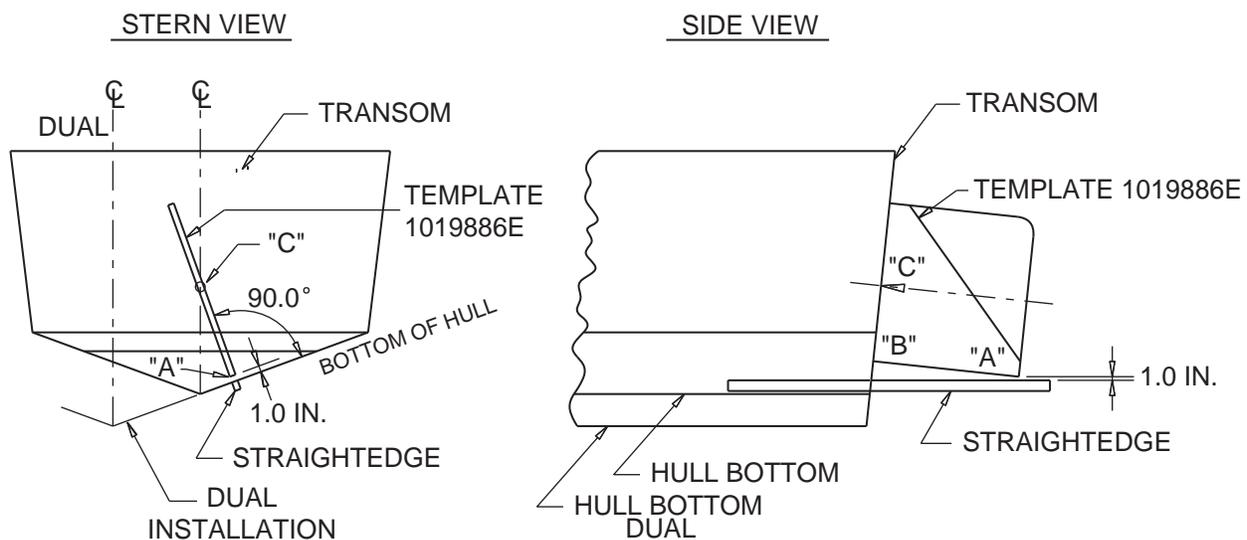

Figure 5. Mark Hull using Template 1019886E
3. Use Template 1019886E to locate and mark drive centerline(s) as shown in Figure 5.
4. A For single drive installations, position centerline of Template 1019886E on transom centerline. Locate "Point C" on transom using template 1017597, page 1. Mark centers for mount holes (7), and lubrication holes (2).
4. B For twin drive installations, locate and match "Point C" on transom using template 1019886E. Rotate template until cutaway area on the thrust socket flange is parallel to the hull deadrise as shown in Figure 5. Locate and mark centers for mount bolts (7) and lubrication holes (2).